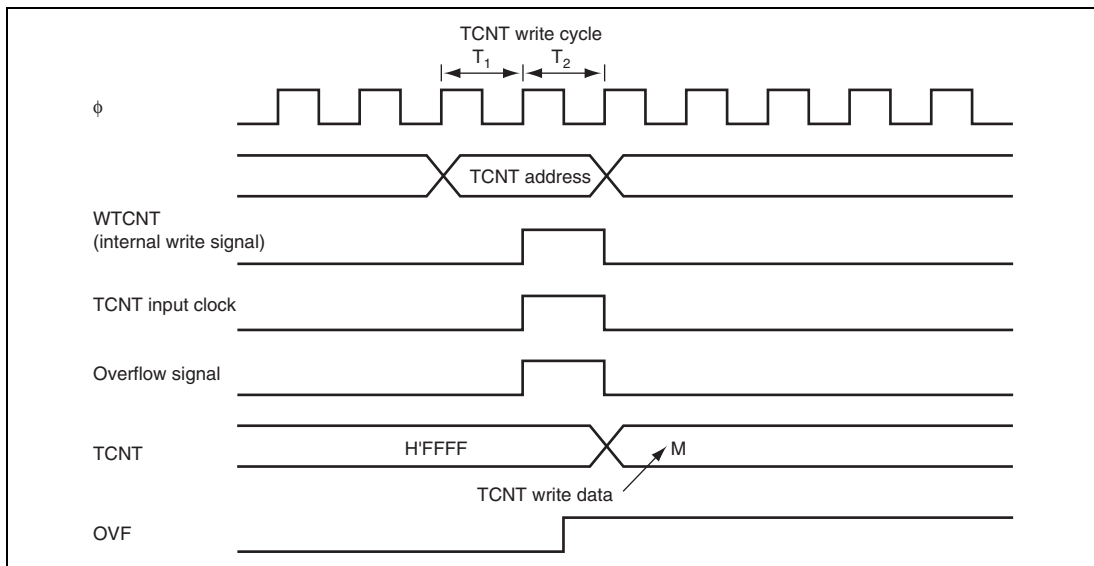

Figure 14.55 Contention between TCNT Write and Overflow
4. Contention between TCNT Write and Overflow/Underflow: If overflow/underflow occurs in the T_2 state of a TCNT write cycle, TCNT write has priority without an increment operation. At this time, the OVF flag is set to 1. Figure 14.55 shows the timing in this case.